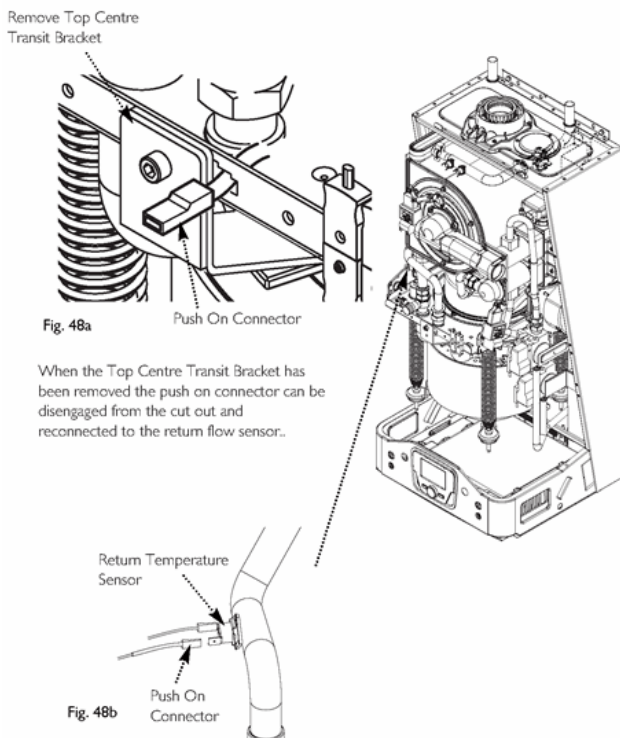

Fig. 48a & Fig. 48b
b) This will release the second security measure now that the top bracket has been removed. The push on connector can be disengaged from the cut out and reconnected to the return temperature sensor (Figs. 48a & 48b) (the appliance will not operate until this reconnection is made, Error 40 will show).